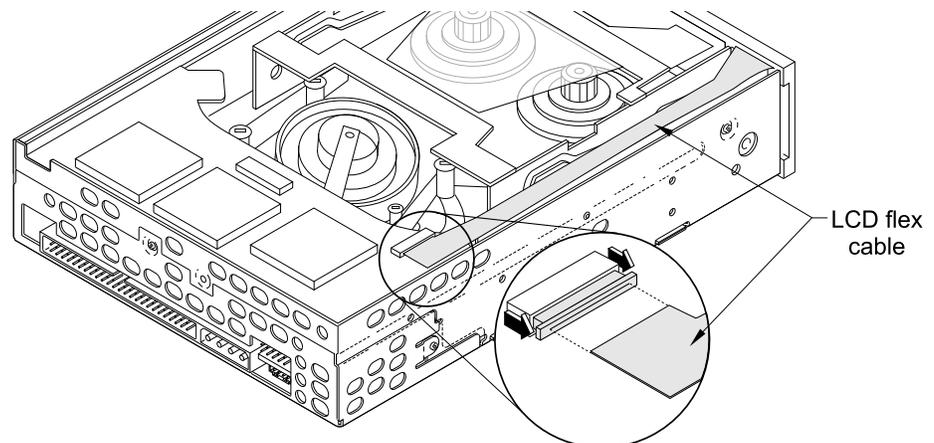

Figure 2 Loosening the LCD flex cable connector
3. If your tape drive has an LCD on the faceplate, disconnect the LCD flex cable before you remove the faceplate. Unlock the LCD flex cable connector by pulling one end of the tab and then the other toward the cable (see Figure 2).